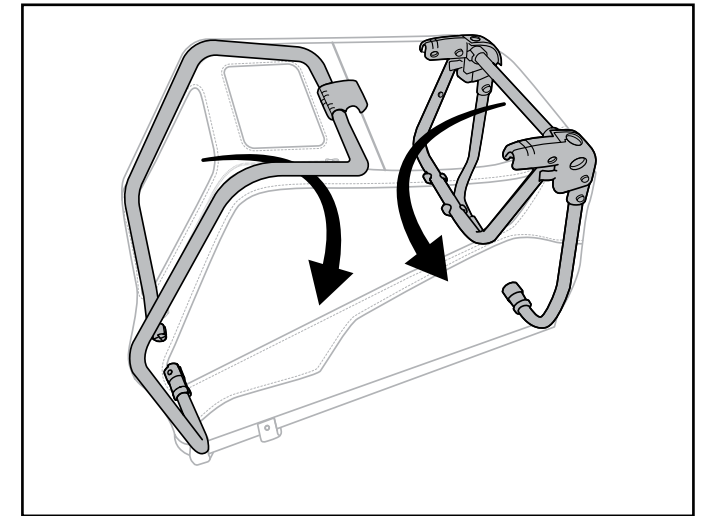

Figure 10
4. Fold the rear frame down, followed by the front frame (Figure 10).